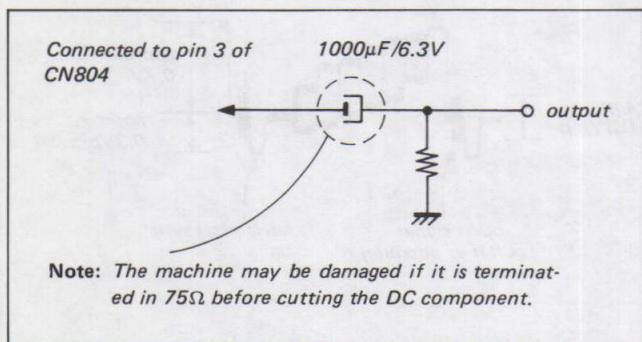

Fig. 5-3. 75Ω terminating circuit
To terminate the video output terminal (pin ③ of CN804), follow the steps shown in Fig. 5-3.